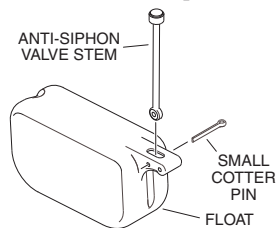

Figure 2
2. Position the anti-siphon valve stem assembly in the slot of the float and slide the 1-1/8" cotter pin (smallest of the two cotter pins) through the float and the valve stem assembly (see Figure 2) then spread the end of the cotter pin open slightly. When properly installed, the valve stem assembly should pivot freely on the cotter pin inside the float.